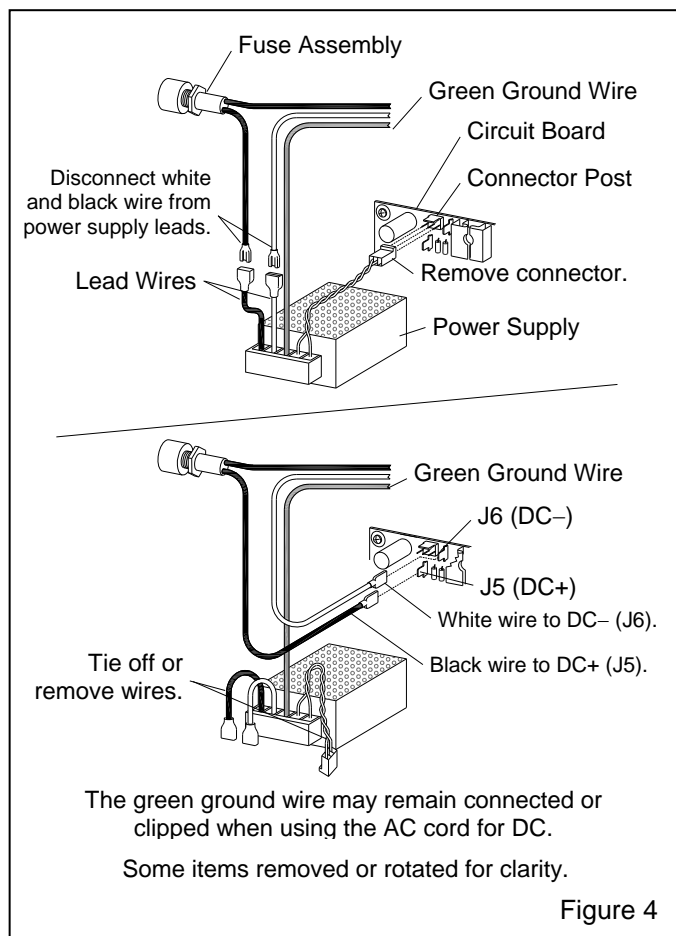

Figure 4
The AC power cord provided with the monitor may be used, using *black* as the positive. A user supplied DC, 2-wire cord may be used, using red as positive. If a new 12-volt cord is used, splice the positive through the fuse and use the spade on the outlet of the fuse to connect to J5 DC positive post, as shown Figure 4.
2.4.3.4 Remove the connector with *red* and *black* wires from the plug on the circuit board, as shown in Figure 4. If there is a chance the monitor will be converted back to AC power, tie the wires out of the way. If the monitor is to be permanently converted to 12 volts, pop off the clear terminal cover and remove the wires from the terminal.
2.4.3.5 Disconnect the *white* and *black* wires from the power-supply lead wires at the connectors, as shown in Figure 4.
2.4.3.6 Plug the *black* wire onto the J5 (DC +) post at the upper edge of the circuit board, as shown in Figure 4. Plug the *white* wire onto the J6 (DC-) post.